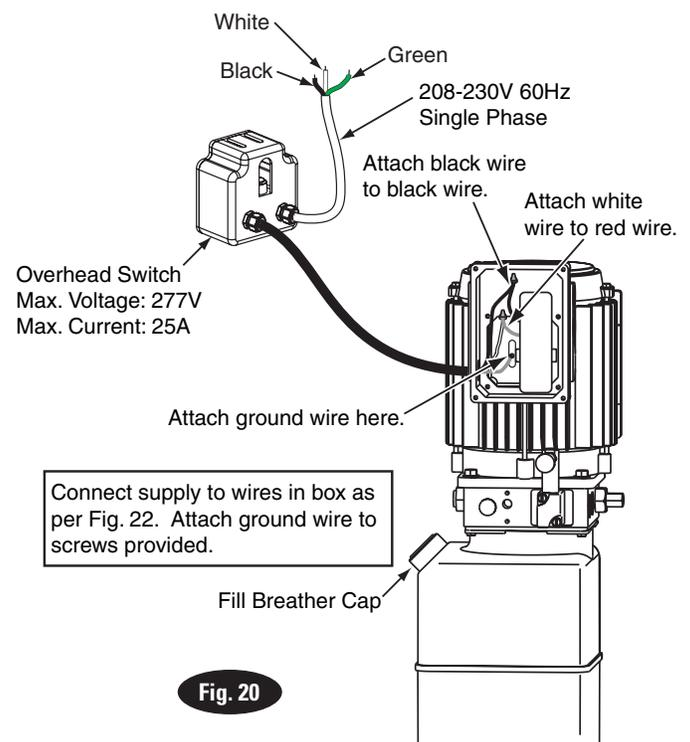

Fig. 20
19. Overhead switch: Check overhead switch assembly to assure that switch bar is depressing switch plunger sufficiently to actuate the switch. The overhead switch is wired normally open, see Fig. 20. Lift will not operate until weight of switch bar is depressing switch plunger. Verify that Power Unit stops working when switch bar is raised, and re-starts when the bar is released.